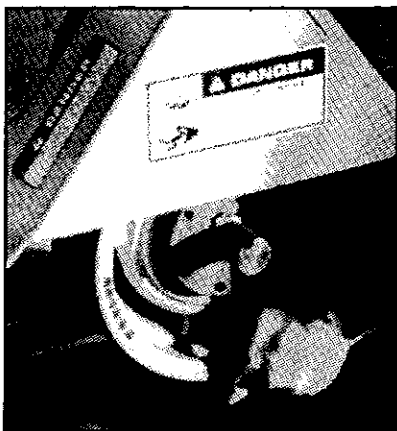

FIG. 11 - LARGE PULLEY
**STEP 1:** On PTO models, turn the flywheel over slowly with the tractor engine shut off by turning the large pulley by hand to make sure there are no obstructions. (Refer to Figure 11.) If an obstruction is present, correct before proceeding. Items in flywheel housing, bolt interferences, or knife contact with bed knife or flywheel housing are possible causes of obstruction.